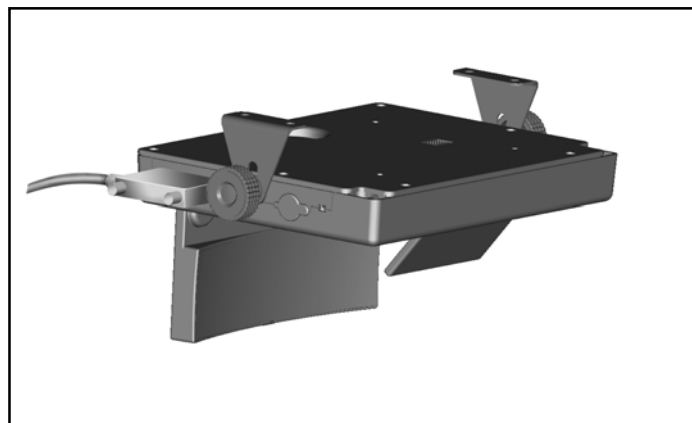

Figure 3 CB Mount (Overhead)
**CB Mount (Overhead)** - the display is mounted above the driver's head in the headliner area (head-up). See Figure 3.